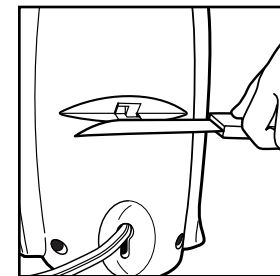

Figure 4
1. Place cutting edge of knife in the knife slot located on the back of the can opener. See Figure 4.